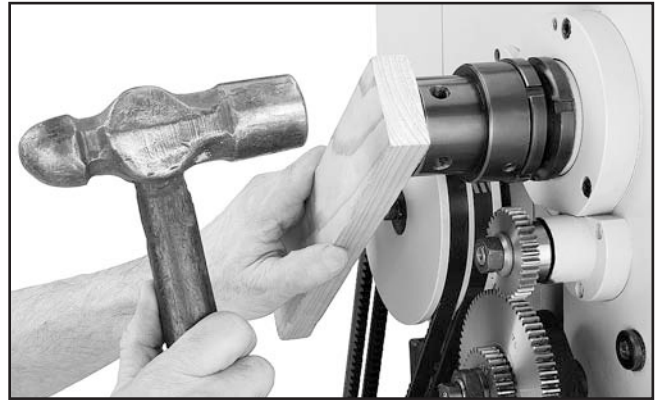

Figure 108. Un-seating spindle bearings to introduce spindle end-play.
6. Since the spindle bearings may unseat easily without great force, hold a wood block against the outboard end of the spindle, and tap the block a few times with a three or four pound hammer (see **Figure 108**). Your goal is to slide the spindle forward just enough to introduce spindle end-play that can be heard or felt by hand.